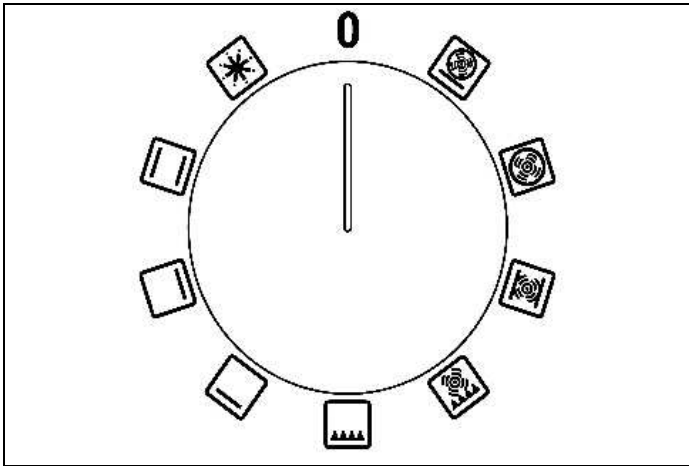

Fig. 19
- Turn the functions knob (Fig. 19 ) clockwise to select the function required. The orange light comes on to indicate that the heating element is in operation.